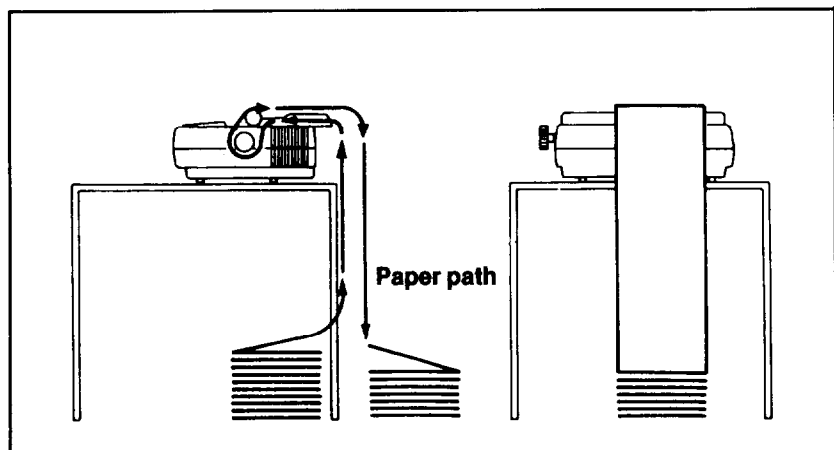

Figure 1-2. Paper placement
3. Choose a location which will allow enough space beneath or behind the printer to load the paper. If you are using continuous (or pin-feed) paper, the paper path should be free from obstruction (see Figure 1-2) .